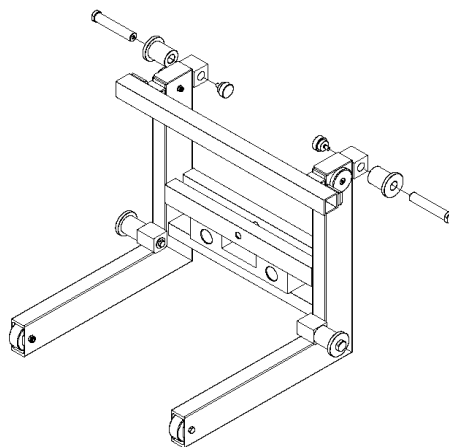

Fig. 3
7.3 Loosen the knurled screws and remove the bolts and guide rollers as shown in Fig. 3.